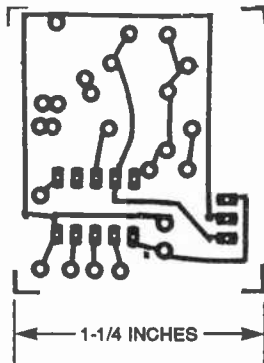

Fig. 3. Here is the template for the accelerometer printed-circuit board.
**Construction.** The author's prototype for the "g" Machine was assembled using three single-sided printed-circuit boards that are mounted within a small enclosure. Those are the accelerometer board (Fig. 3), the A/D-converter board (Fig.